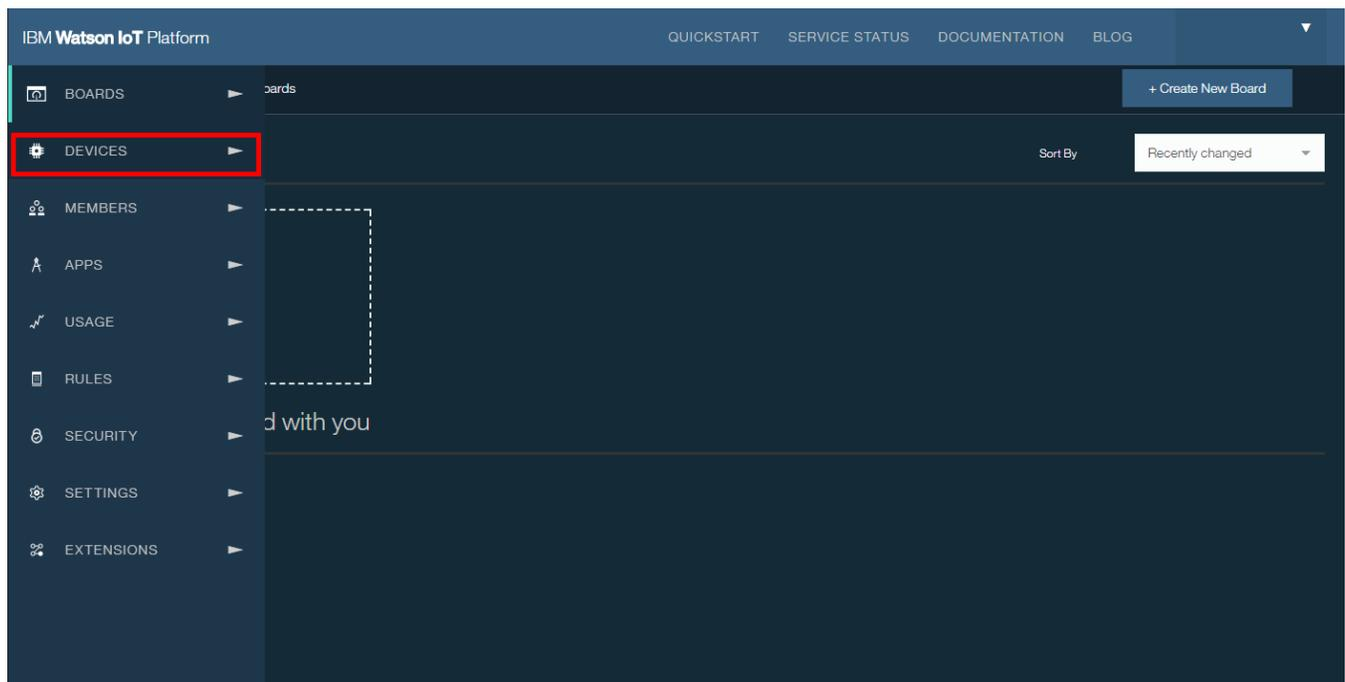

图 37. Go to Dashboard
1. Once on the IBM Watson IoT Platform, go to Devices on the navigation bar on the left as shown in 图 37.